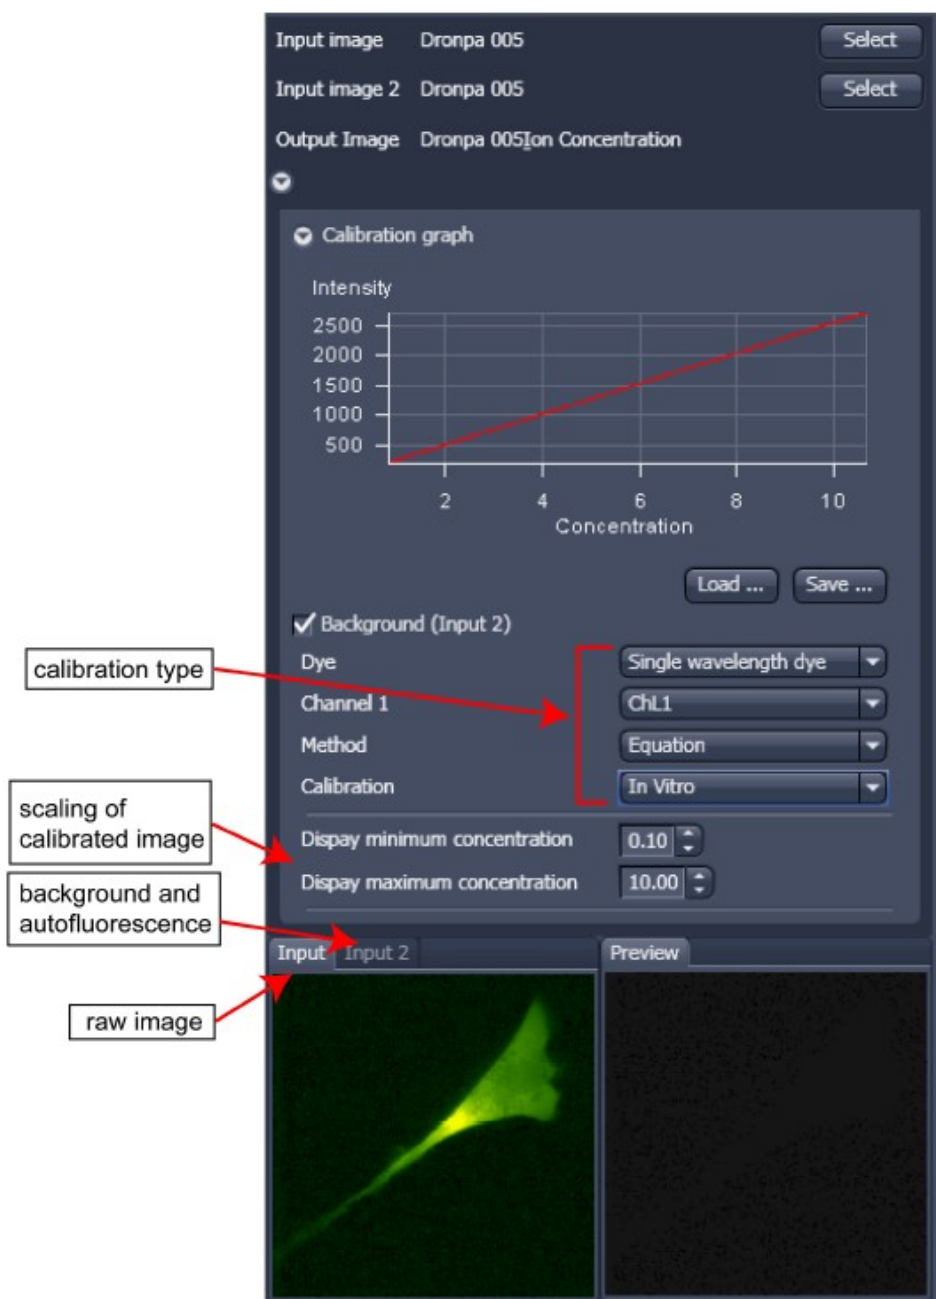

Fig. 129 Ion Concentration panel
- Subtract background/autofluorescence image from raw images to obtain better raw data to start with (Fig. 129).